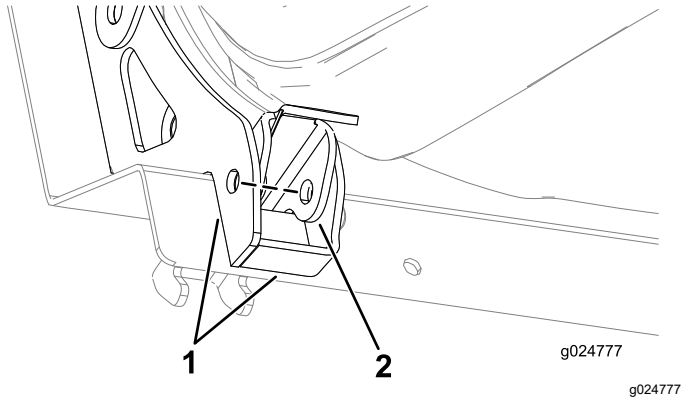

Figure 22
- 5. Align the holes in the latch with the holes in the seat gussets (Figure 22).